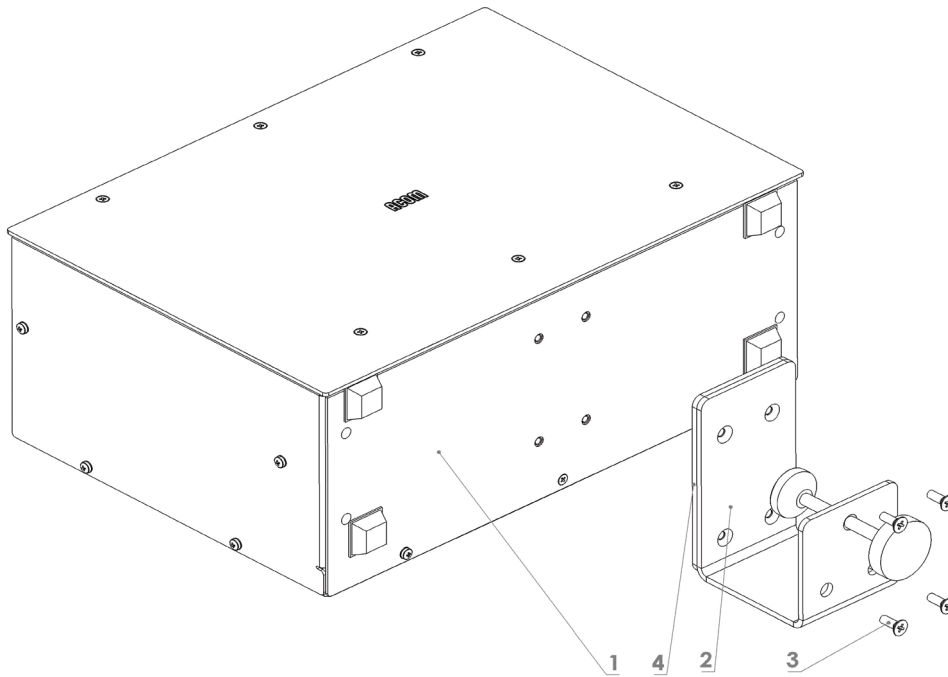

Fig. 2-2. Desk installation bracket
**If the desk mounting option is chosen**, the tuner is placed on the desk with the connectors facing to the back, rubber feet facing down and secured in place with the provided desk bracket (Fig. 2-2). The decorative black anodized aluminum faceplate provides an aesthetic look, matching any high-end ham radio setup.
The desk bracket (2) is secured to the tuner body (1) via 4 flat-head bolts (3) - Fig. 2-2. Be sure to place the provided metal spacer plate (4) between the bracket and the tuner body. The bracket is finished off with black polymer paint, reducing the possibility of accidental scratching of the desk surface.